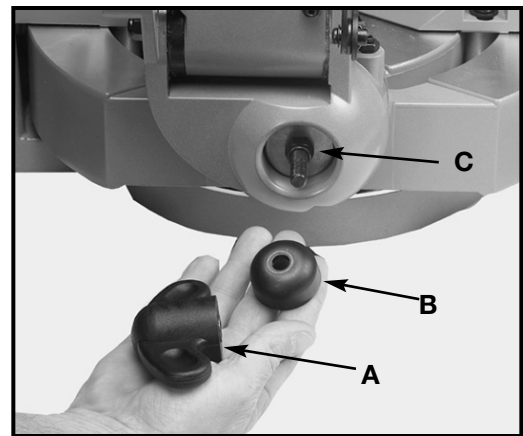

Fig. 27
After a long period of time, it may become necessary to adjust the sliding fit between the trunnion and the bevel bracket by tightening the adjusting nut (C), Fig. 27, located underneath the bevel lock (A), Fig. 27, and collar (B) Fig. 27.